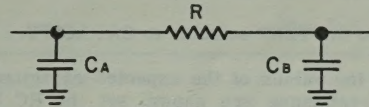

Fig. 2-2. Example
5. A good capacitor connected in parallel with an open one may cause an indication "not open". Therefore, all indications should be interpreted on the basis of circuit examination. For example, in Figure 2-2, if R is less than 35 ohms and Ca is open, but Cb is large, the indication may be "not open" while checking Ca because small R does not isolate the capacitors sufficiently. In the same case, but with R larger than 35 ohms, the indication will be correct.